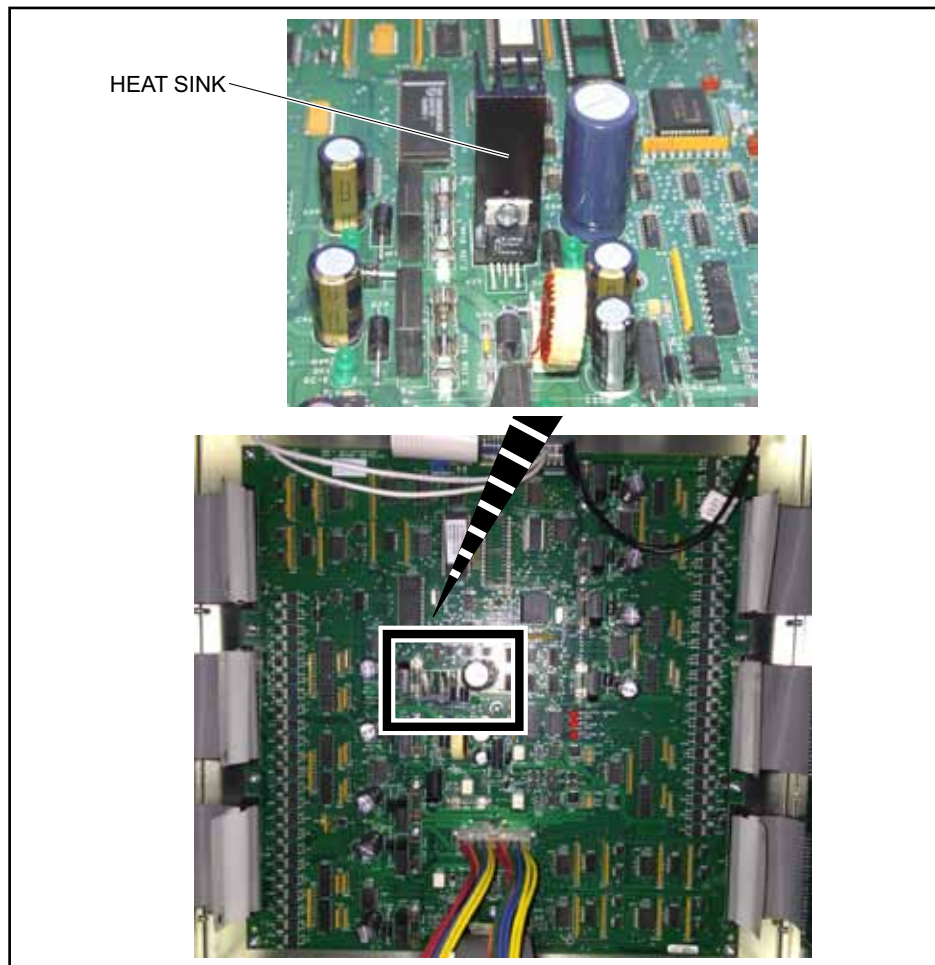

Figure 1 - Modified CPU with Heat Sink
2. Locate the CPU PCB board and check if Regulator U39 has a black heat sink attached and is soldered on the board. Refer to *Figure 1*.